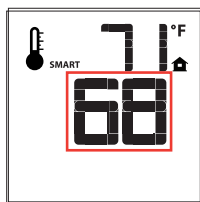

Figure 51a- Remote Control Displaying Smart Thermostat Function
1. To activate this function, press the Thermostat key until the word "SMART" appears to the right of the temperature bulb on the LCD screen (see Figure 51a).